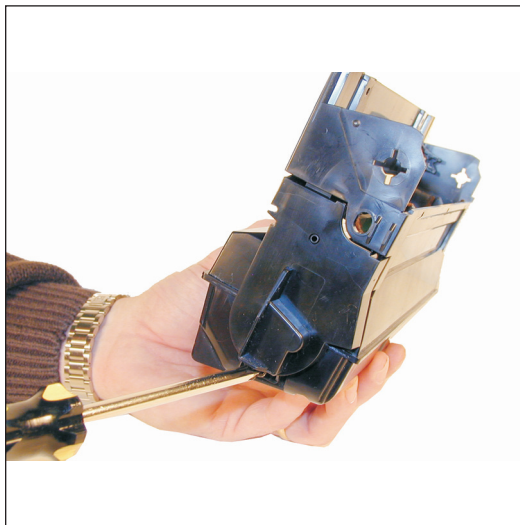

Figure 29
23) Install the side gear cover, and screw. See Figure 29